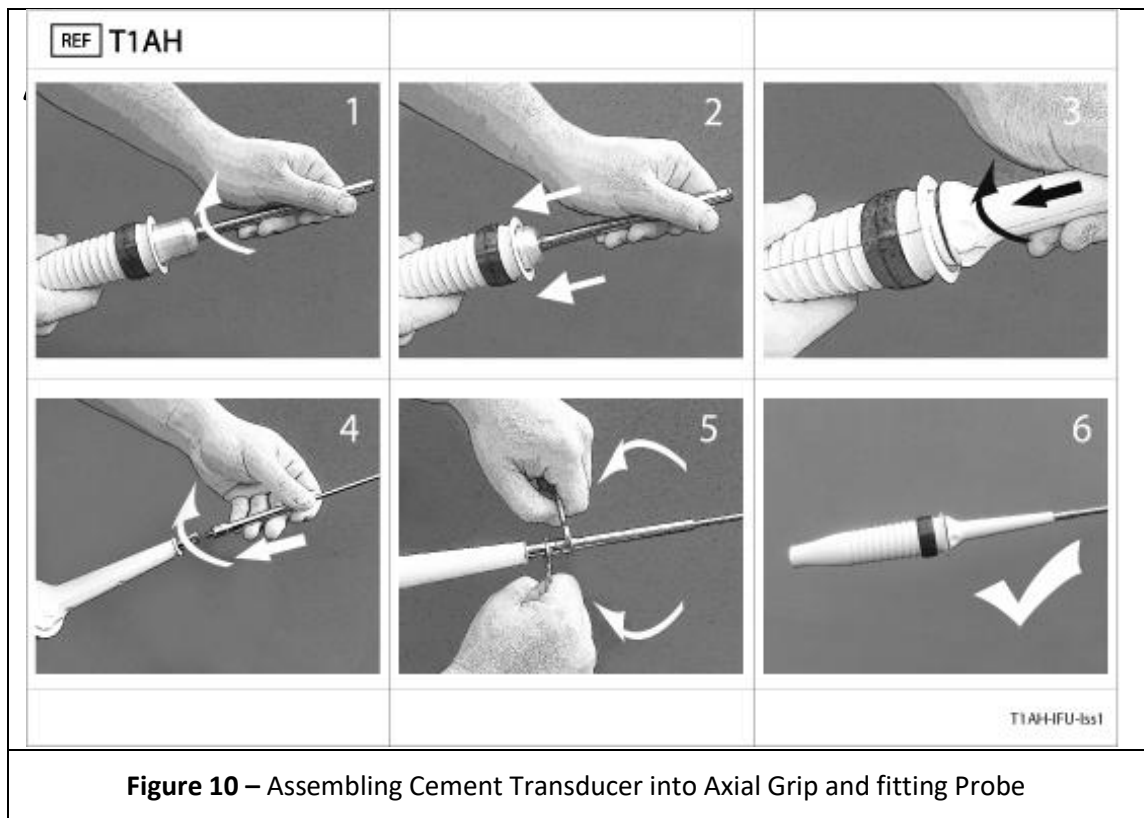

Figure 10 – Assembling Cement Transducer into Axial Grip and fitting Probe
- Fit the Transducer into the Handpiece. Rotate and click into place – ensure that it is securely connected. See (1) & (2) in Figure 10 below.
- Slide the Handpiece Sleeve over the Transducer horn. Locate the lugs at the base of the sleeve into the grip Handpiece and twist / click into place. See (3) below.
- Using supplied spanners, attach the Probe to the Transducer (4) & (5) below.